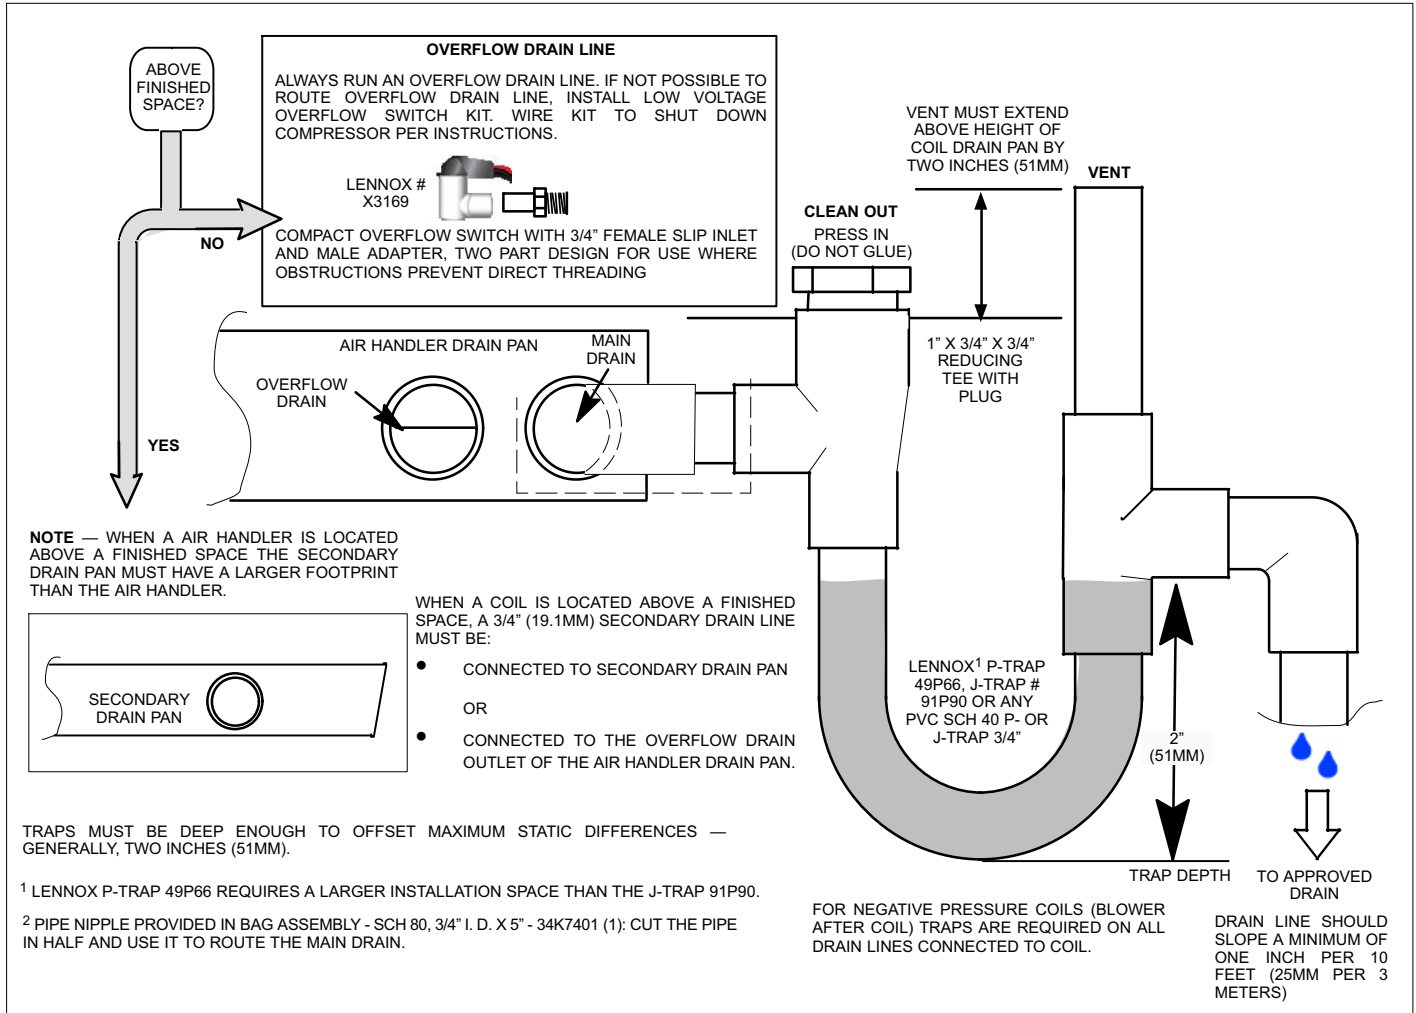

Figure 23. Typical Main and Overflow Drain
7. Install a 2" trap in the primary drain lines as close to the unit as practical (see figure 23). Make sure the top of the trap is below the connection to the drain pan to allow complete drainage of the pan.
NOTE — Horizontal runs must have an anti-siphon air vent (standpipe) installed ahead of the horizontal run (See figure 23). An extremely long horizontal run may require an oversized drain line to eliminate air trapping.